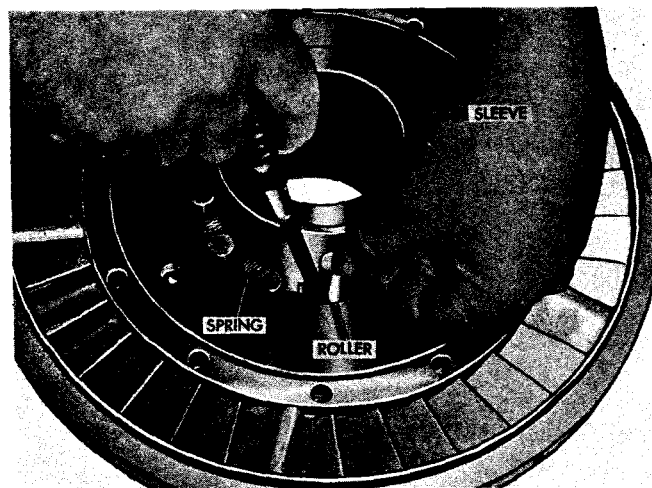
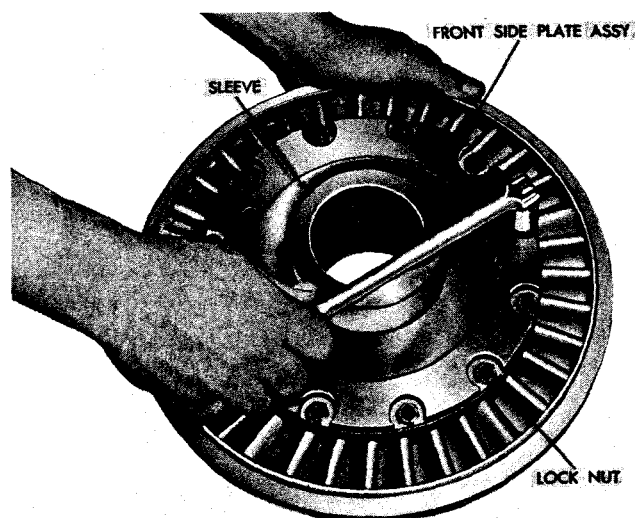

Fig. 6-10. Installing freewheel rollers
Fig. 6-11. Installing stator lock nuts
(8) Place the variable-stator assembly installation sleeve, inner chamfer upward, in the center of the cam (fig. 6-10). Using a screwdriver to compress the spring, install a freewheel roller in the cam pocket. Install twelve rollers in this manner.
(9) Install rear side plate assembly 25 (A, foldout 7) onto the sleeve, and aline the bolt holes. Hold the assembly together securely and turn it to stand on the outer rim of the shroud assembly.
(10) Install twelve bolts 7 from the rear of the stator assembly. While holding the assembly securely, start twelve lock nuts (fig. 6-11) on the bolts. Tighten the lock nuts to 14 to 18 pound feet. Leave the sleeve in the stator until stator is installed into the transmission.